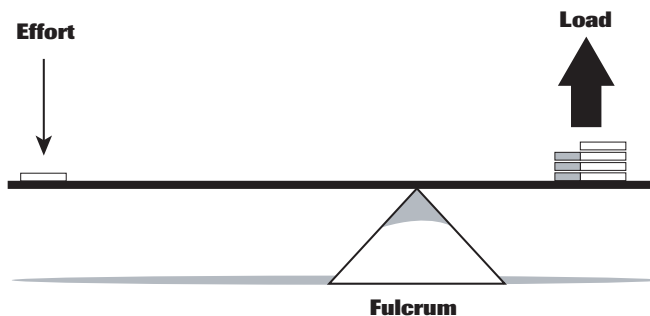

**Fig. 3**
- (b) This class of lever always changes the direction of the effort force, so that the effort and the resistance move in opposite directions: a downward push on one side of the lever can result in an upward push or pull on the other. (Fig. 3)